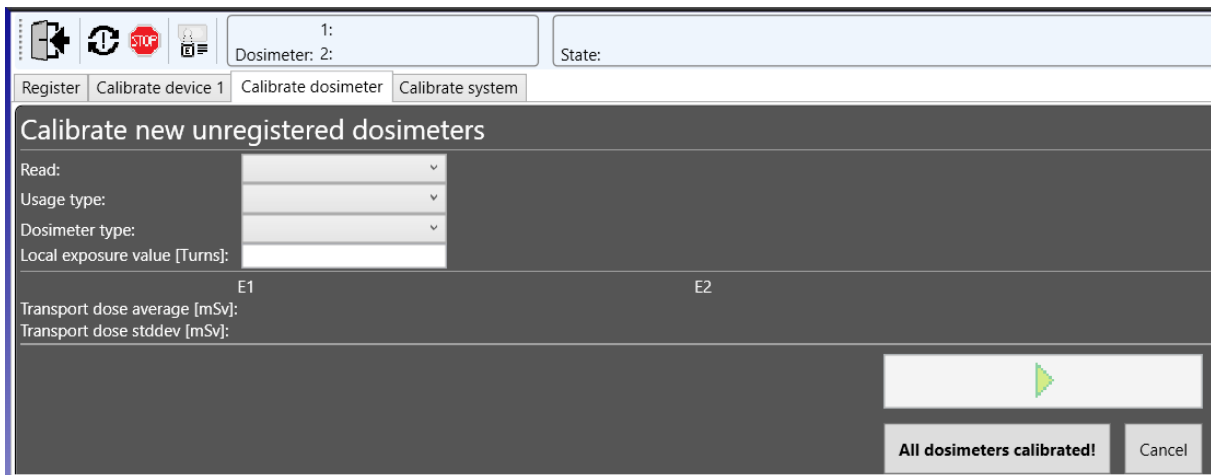

Figure 36 Calibrate new unregistered dosimeters screen
- 8) If “Calibrate new unregistered dosimeters” is chosen, type in the Local exposure value of the irradiated dosimeters and the other parameters according to 7.6.2.2 Register and confirm with enter, click “Start” button and confirm when all dosimeters are calibrated (Figure 36)